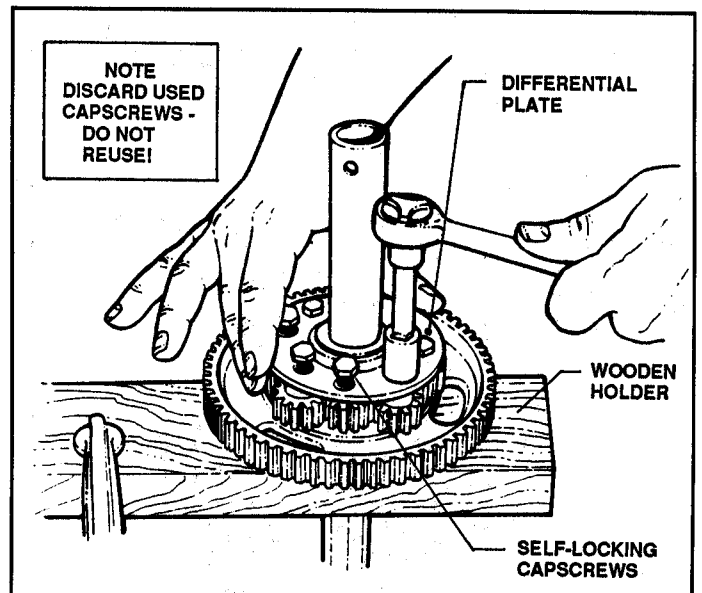

FIGURE 4.20
23. Remove the self-locking capscrews from differential plate and discard - they cannot be reused. Replace with new #1-2333 capscrews during reassembly. See Figure 4.20.